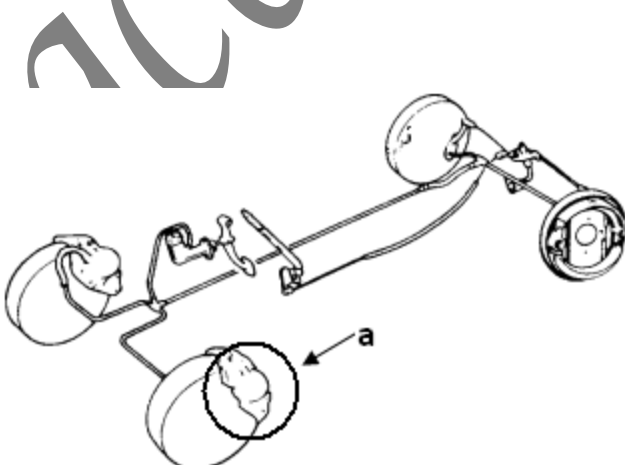
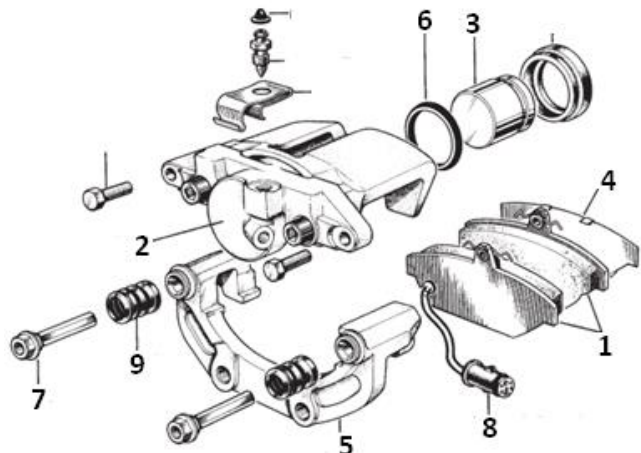

FIGURE 2A: braking system
FIGURE 2B: brake organ
2. The **FIGURE 2A** below represents the braking system of a TOYOTA CARINA E vehicle that uses a hydraulic command system. And **FIGURE 2B** represents one of the organs of the braking system.
- a. What is the name of the brake organ represented by a on **Figure 2A**? (1 mark)
- b. Referring to **Figure 2B**, give the names of the follow parts of this organ (1, 2, 3, 5) (0.5x4=2 marks)
- c. What is the function of part 1, 3 and 8 of **Figure 2B**? (0.5x3=1.5 mark)
- d. Explain the operating principle of **figure 2A**. (3 marks)